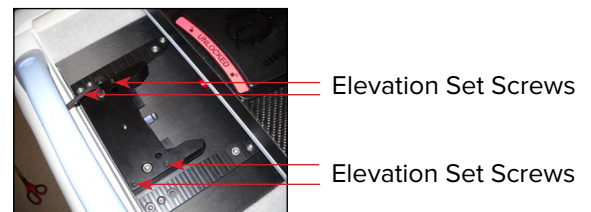

Fig. 10
- b. Adjust the height of the Mounting Block using the (4) Elevation Set Screws (found on the mounting block) using the ⅛ in. Allen Wrench (provided) (Fig. 10).
- d. Lock the Foot Latch Mounting Block by tightening the (2) ¼-20 Locking Screws using ⅜ in. Allen wrench (provided).